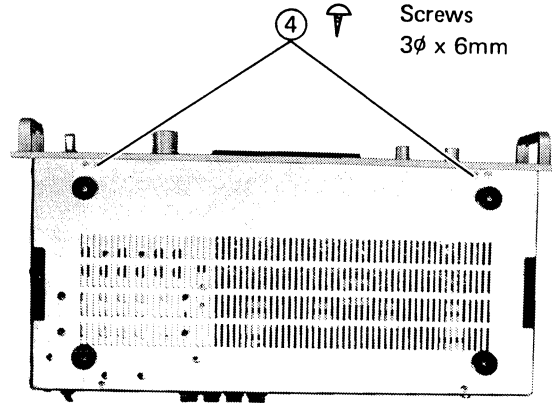

Figure 7
2. Remove two screws ④. See figure 7.